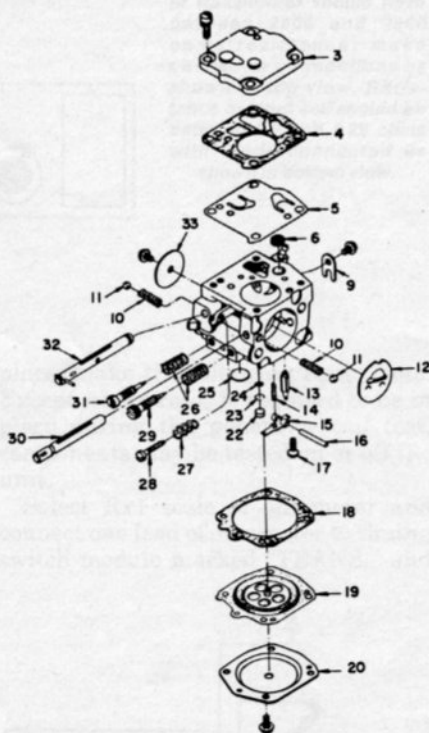

Fig. HL1—Exploded view of Tillotson carburetor used on model 250 and 270.
CARBURETOR. A Tillotson HS-45A carburetor is used on earlier engines while later models use a Tillotson model HS45C carburetor; refer to exploded view of carburetor in Fig. HL1. Note: As engine speed is controlled by governor plate on rotary inlet valve, there are no governor linkage connections to throttle shaft. Throttle shaft has spring loaded detent to hold shaft in wide open position. Generator engine is not fitted with throttle control knob. Carburetor is accessible after removing air cleaner cover (1—Fig. HL2).
Later model carburetor is fitted with a main nozzle check ball which allows use of larger mesh inlet screen (6—Fig. HL1) and provides easier adjustment of fuel mixture. The check ball assembly will be in the same bore as the small body channel welch plug (22), retaining ring (23) and screen (24), and will replace these parts.
Fig. HL2—Exploded view of air intake and fuel system. Refer to Fig. HL1 for exploded view of carburetor (24). Control lever and shaft (2) is not used for throttle on generator engine and hole is covered by plug (3).